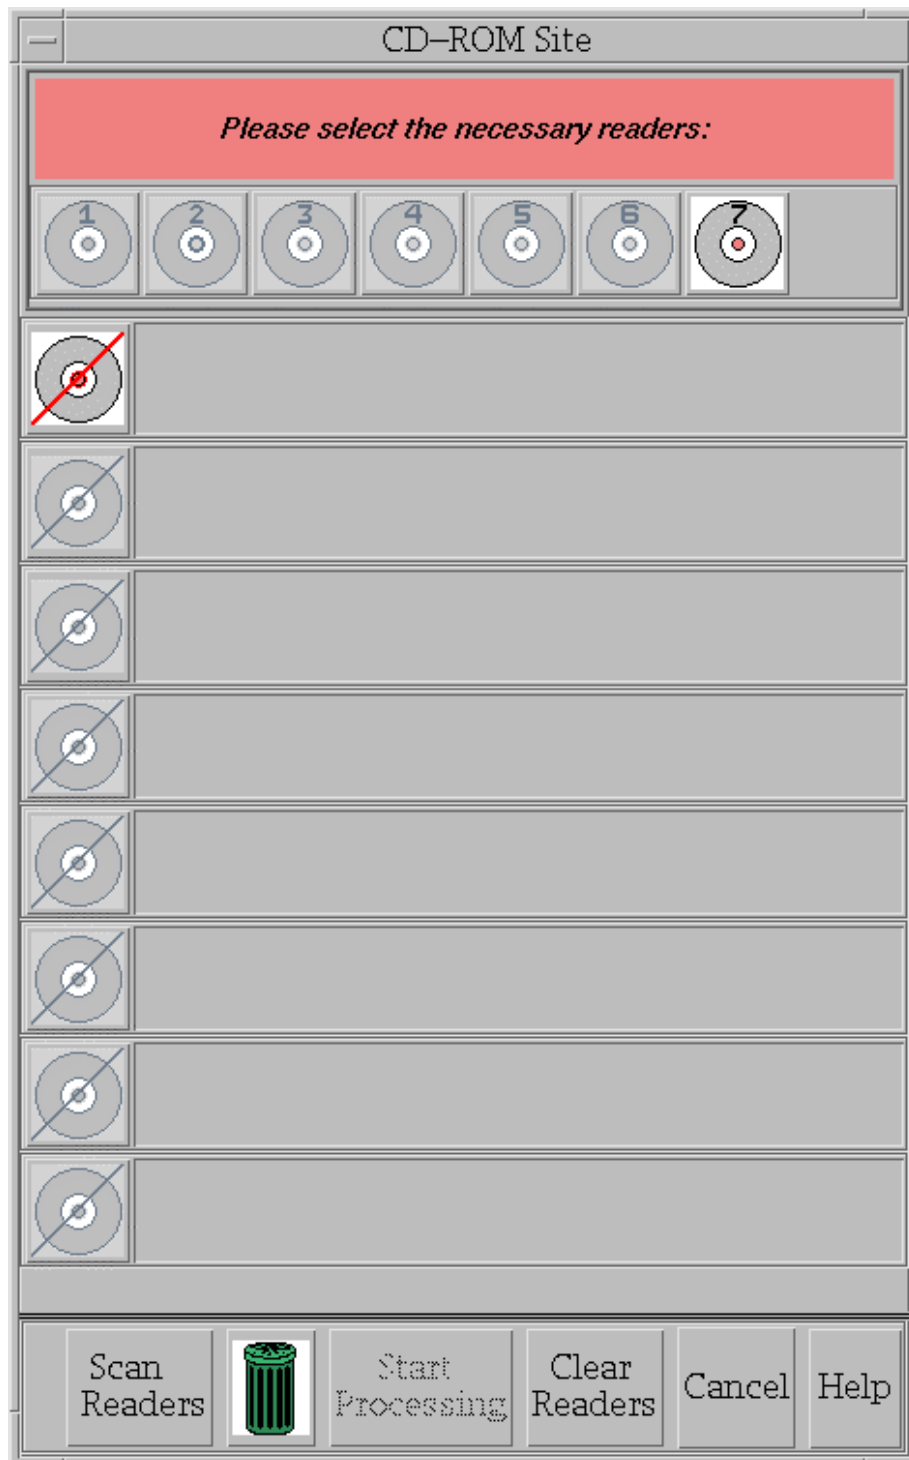

Fig. 41 – CD-ROM Site Window
- 4) **CDROM**: Use this option to make a duplicate copy of any CD. MMC will display a verification message (answer Yes to proceed), then the **CD-ROM Site Window** (Fig. 41). Load the CD to be copied into the CD-ROM drive, select reader 7, then click on the Start Processing button at the bottom of the **CD-ROM Site Window**. See Section 4.1 for more information on loading, selecting, and reading CDs. MMC will take the user through the necessary steps to Premaster the data.
3.3.6.4.1 *Process Scale* — Select *Tools*, *Data Processing*, *Process Scale*, and then choose the appropriate chart scale for data to be processed from the list of supported scales. The **CD-ROM Site Window** (Fig. 41) appears. Insert the CD with data to be processed into the CD-ROM drive, and select reader 7 (the only reader available). Click on *Scan Readers*, and then *Start Processing*.
2. MMC will display the **CD-ROM Site Window** (Fig. 41), listing all seven CD slots; this includes six slots in the CD changer (CDROM1 through CDROM6), which are unavailable in the FiAF configuration and are colored gray, and the computer's internal CD drive (CDROM7).
5. If the listed CD is not required, click (with middle mouse button) and drag that CD's number from the list to the Trash Can at the bottom of the window. The CD-ROM Site Window then again shows the readers as unselected (Fig. 41). You can also select Clear Readers to perform the same task. If several CDs were listed, all readers would be cleared, however.